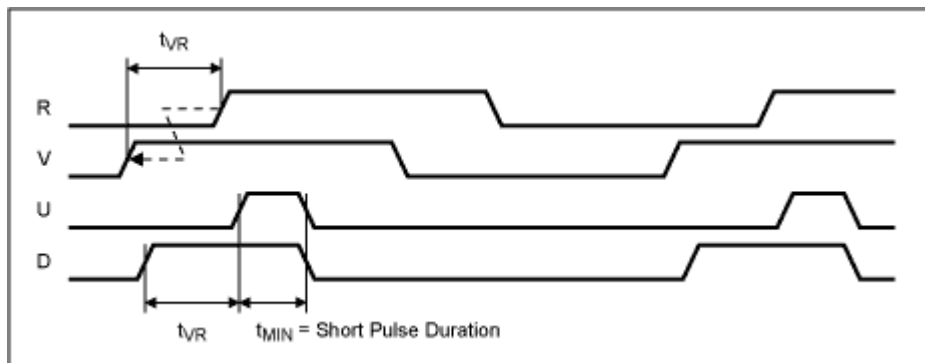

Figure 5. The MAX9382 input and output timing with V leading R
One of the potential shortcomings of the charge pump-based loop filter arrangement is the minimum pulse width that the filter inputs can respond to. A typical phase detector output condition at lock is a series of very short pulses on the "up" and "down" outputs. If these pulses are too narrow for the loop filter to "see" then the result will be a loop dead-band characteristic about zero phase. This dead-band behavior will subsequently lead to phase offsets and increased output jitter at lock. Some systems employ a deliberate phase offset to bias the phase detector output away from this region. The MAX9382 prevents this type of behavior by providing well defined minimum short pulse widths on the "up" and "down" outputs. The diagram of Figure 5 shows the input and output timing of the MAX9382 for the case when the VCO signal (V) leads the reference input signal (R). This circumstance produces a series of short pulses on the up (U) output and longer pulses on the down (D) output. The difference in duration between the up and down pulses is the required difference in timing between the V and R input transitions.